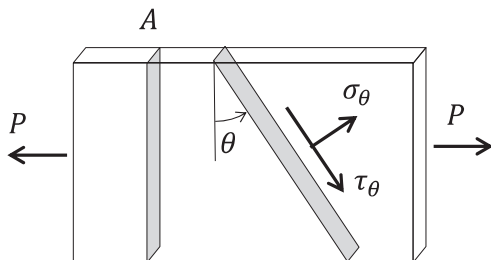

Figure 1
1. Suppose that a uniform and flat plate specimen with a cross-sectional area of A is subject to a uniaxial tension with a load, P , as shown in Figure 1. Answer the following questions assuming that the stress is uniform.
- (1) Derive the magnitude of the normal stress, σ_θ , and the magnitude of the shear stress, τ_θ , acting on the plane inclined by the angle, θ , from the cross section of the specimen as shown in Figure 1, as functions of θ . Also, derive the maximum value of τ_θ .